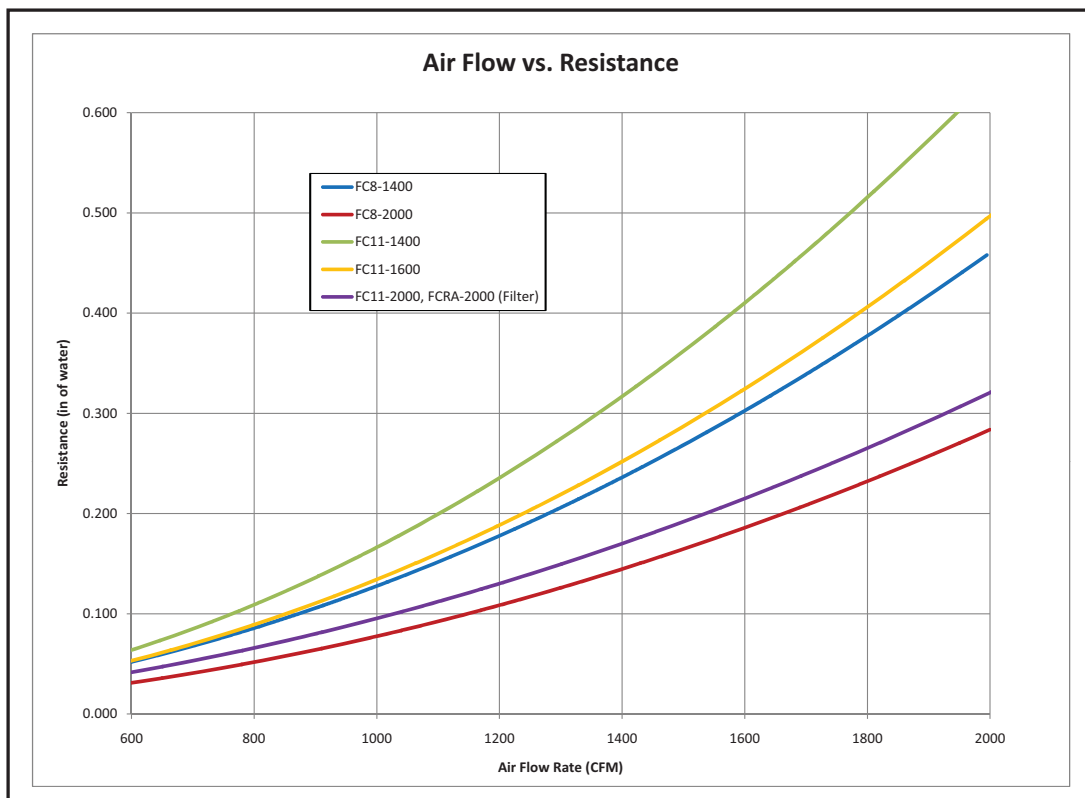

Figure 7
5. Check the flow capacity and pressure drop (Figure 7) to determine the filter is properly sized.